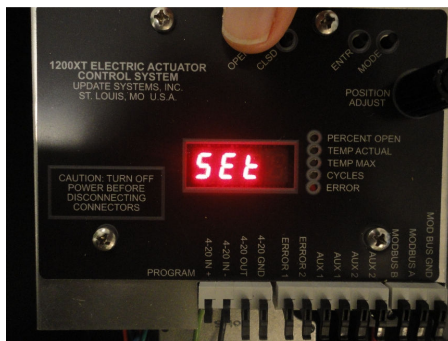

Figure 17
Step 7: To preserve a previous Closed calibration, press **ENTR** to skip (the current raw position will flash on display); otherwise, press and release the **CLSD** button to store the input reference [and position]. If fine adjust was used as described in Step 6, then simply release the **CLSD** button. The unit will display [**SEt**] to indicate that the calibration parameters have been saved for closed position as shown in Figure 17.